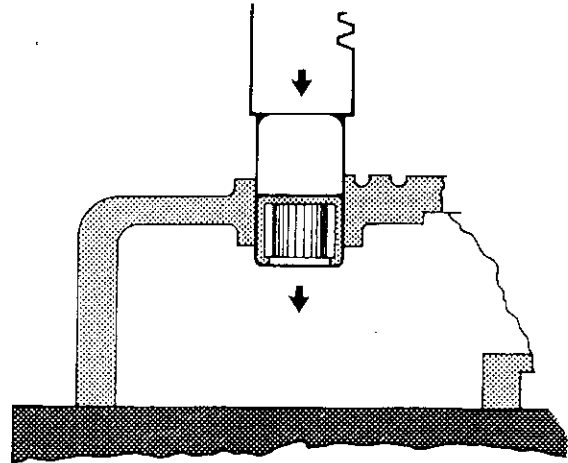

Figure 5.15
23. Using a thin knife blade or screwdriver, remove the piston actuator ring (17). A slight warming of the ring using a 60 watt light bulb will aid in ring removal. Remove piston actuator seal and discard both seal and ring.
24. Remove the six gear case screws (6) and lockwashers (5).
25. Remove gear case (4) using a knife edge to separate the gear case flange from the lower end plate. Remove all traces of old gasket (3) and O-ring (2) from lower end plate.
26. Support the gear case (4) as shown in Figure 5.15 and press out the gear case bearing (7).